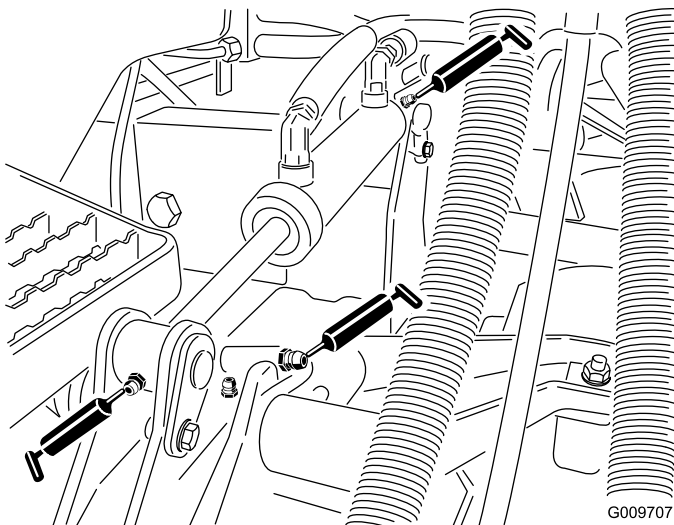

Figure 30
- Lift-arm bushings (1 per deck) (Figure 30)
- Lift-cylinder bushings (2 per deck) (Figure 30)